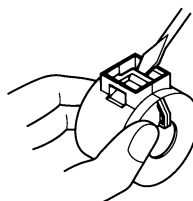

Figure 13-1.
- The ferrite core is normally packed so it is open, as shown in Figure 13-2. If you find that the ferrite core is not open, use a pointed object to pry the plastic lock of the ferrite core apart (Figure 13-1.). When you do, take care not to damage the ferrite core or the plastic lock.